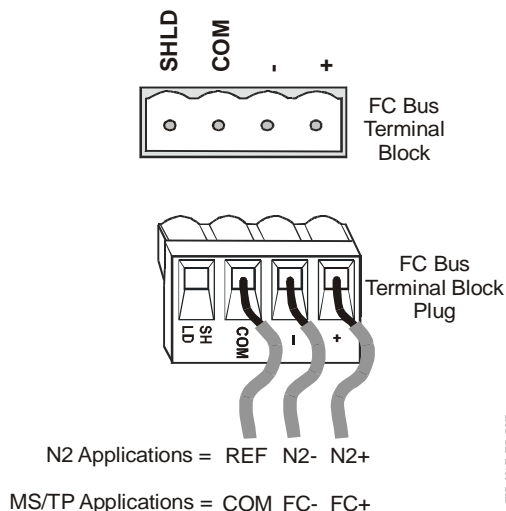

Figure 5: FC Bus Terminal Block and Wiring Connections
- For N2 or MS/TP networks, connect the three bus wires to one of the removable 4-terminal plugs labeled FC A or FC B (Figure 5).